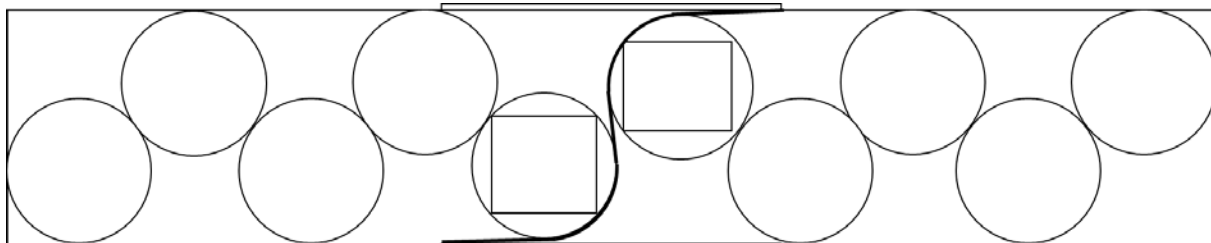

**Figure 1**
See Figure 1.
**7.9.5.4** Apply four AAR approved Type 1A, Grade 5 nonmetallic straps in a Double-S configuration. Each Double-S strap is applied as one continuous strap thru diagonally opposite front and back doorway anchors that creates an S-pattern between the two doorway rolls. Straps are threaded through doorpost anchors that are the same height above the floor at both anchor points. See Figure 1. Space straps vertically at approximately equal intervals as anchor positions permit.